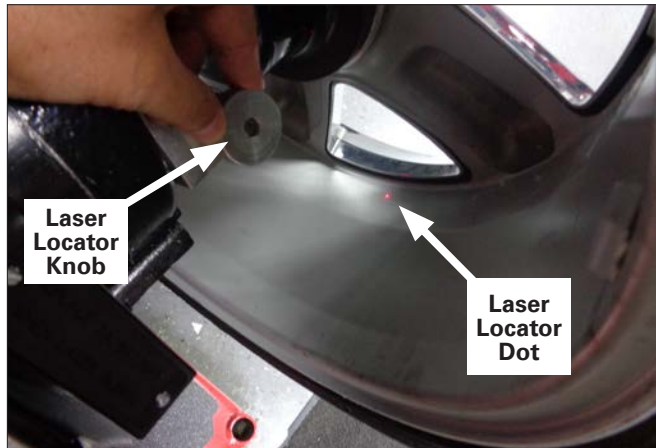

Figure 15 - Positioning Laser Dot At T2 Tape Hidden Weight Location (A2)
If the T2 Tape (hidden Tape-A-Weight) location is selected, use the laser locator to point to the desired hidden weight location (figures 15).
3. Rotate the laser locator knob to position the laser locator dot at the desired weight location. See figures 15 and 16.